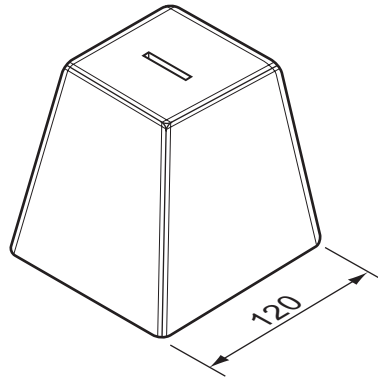

Fig. 6
12 Fig. 6 shows a moneybox made from plastic.
- (f) The moneybox in Fig. 6 could be made from wood.